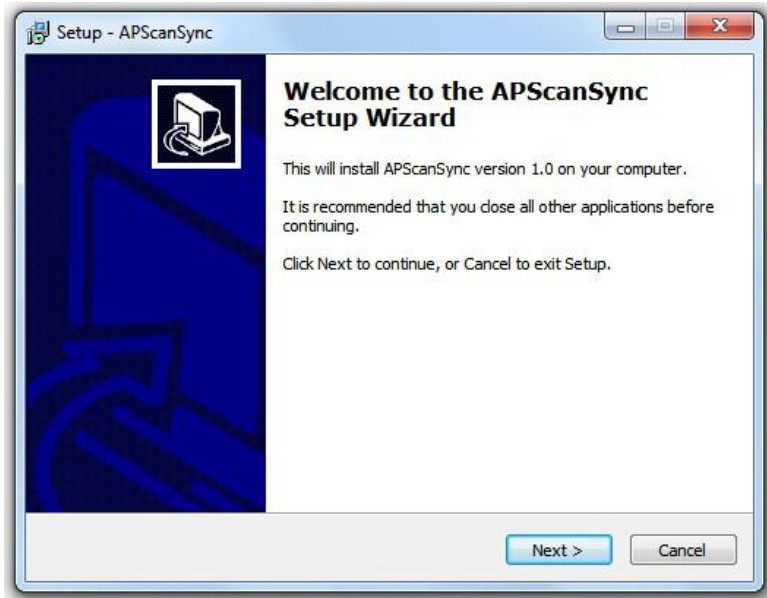

Figure 2-1 Step 1
2. The following display appears (Figure 2-1). Click [Next].